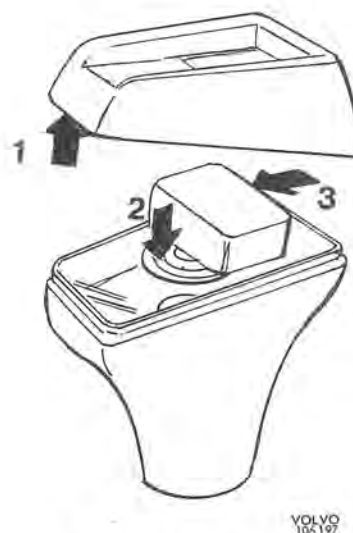

Fig. 4-125. Disassembling knob
2. With the help of a knife lever up at the front edge the cap (1) on the selector lever knob (see Fig. 4-125). Press down the spring washer (3) and push the button (18) forwards so that it releases from the push rod. Remove the washer and spring (4) and pull up the lower part of the selector lever knob (2).
3. Unscrew the retaining screws and lift off the shift positions console (7). Remove the bulb holder for the shift positions lamp (8). Unscrew and lift up the selector lever housing.
4. Release the nut and remove the lever (12). Remove the screws and take the bracket (15) off the selector lever housing (10).
5. Knock up the tubular studs. Remove the push rod (5) and inhibitor (17). Drive out the shaft (11). Release the screws from the gate (9). Drive out the bushes from the bracket (15).